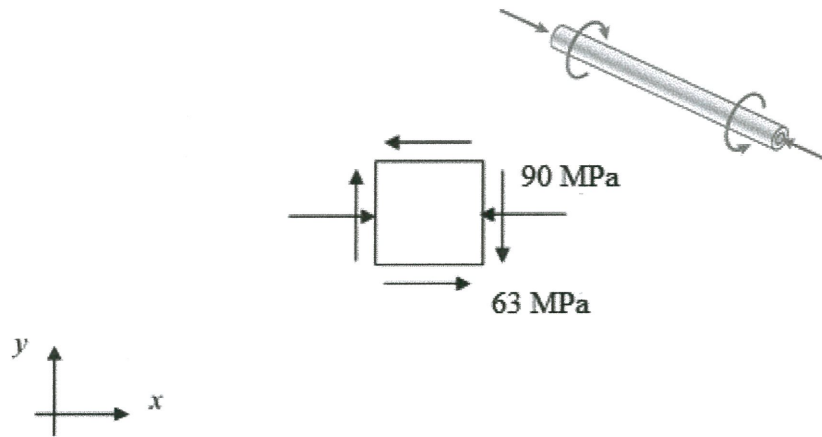

Figure Q1
- Q1.** A propeller shaft subjected to combined torsion and axial thrust is designed to resist a shear stress of 63 MPa and a compressive stress of 90 MPa as shown in **Figure Q1**.